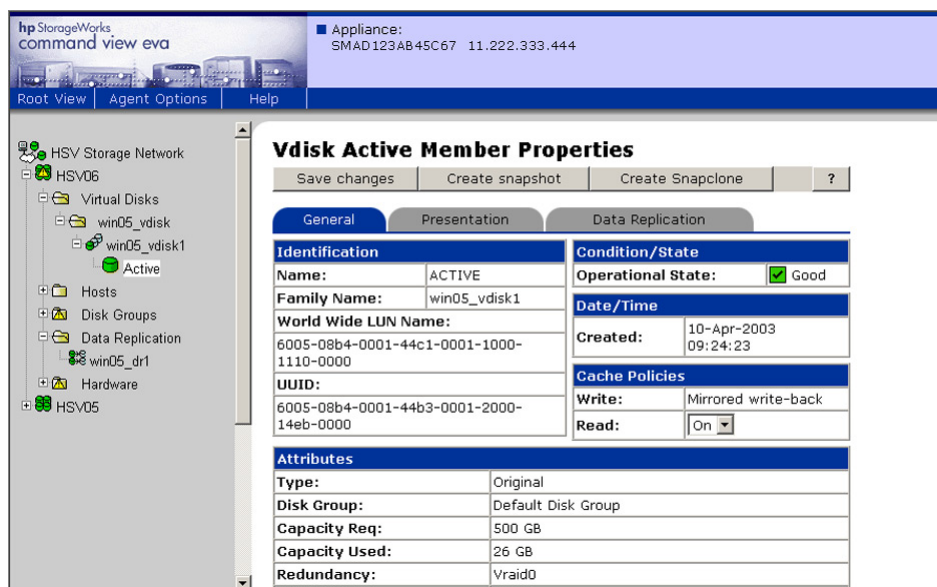

Figure 29: Storage allocation check on Vdisk Active Member Properties page
8. Verify that copy set storage allocation is complete by going to the Command View EVA Vdisk Active Member Properties page (Figure 29) for the destination copy of the Vdisk. Allocation is in progress when the **Capacity Used** value is less than the **Capacity Req** total. Allocation is complete when both values are the same. A failover of the DR group cannot be performed and disaster tolerance is not achieved until both the allocation and full copy data copy are complete.